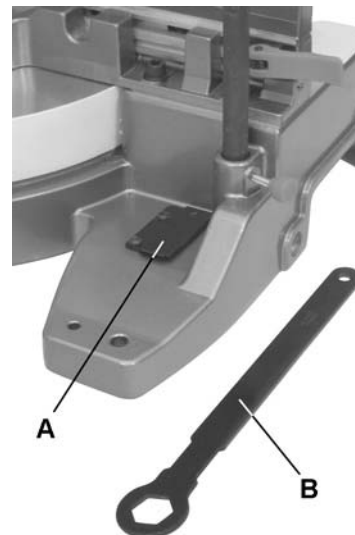

Figure 6
For convenience, *storage clip* (A, Fig. 6) is located at the left rear foot of the base for storing the *blade wrench* (B).